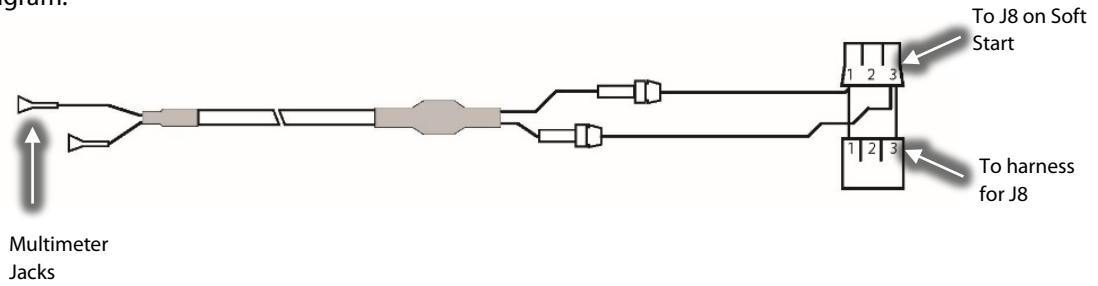
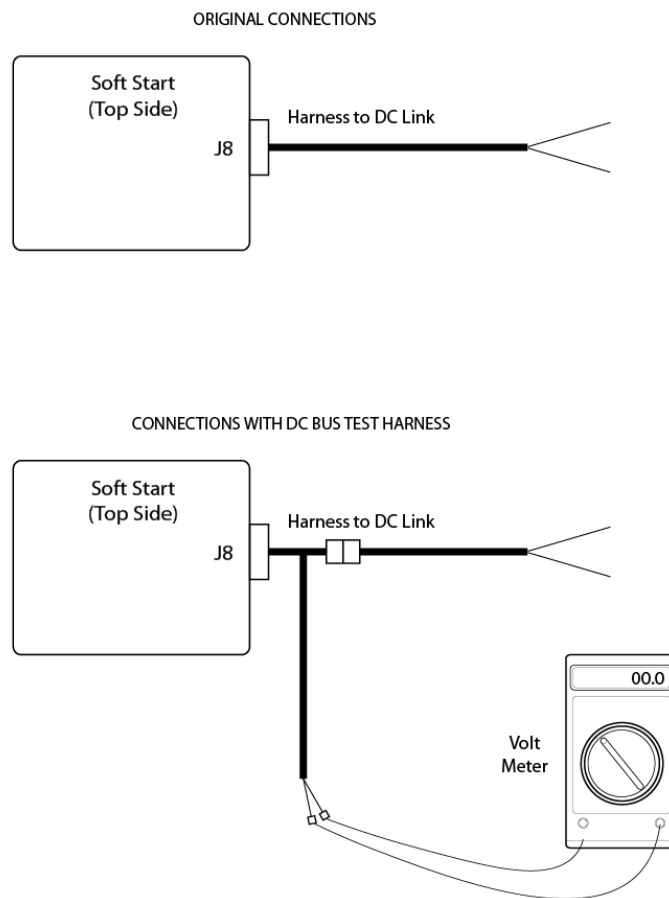

Figure 10 – Open-Top Soft Start Connections
Figure 11 – DC Bus Test Harness Connection Diagram
2. Connect the plug of the compressor cable harness into the corresponding socket of the DC Bus Test Harness. Refer to Figure 10 – Open-Top Soft Start Connections and Figure 11 – DC Bus Test Harness Connection Diagram.